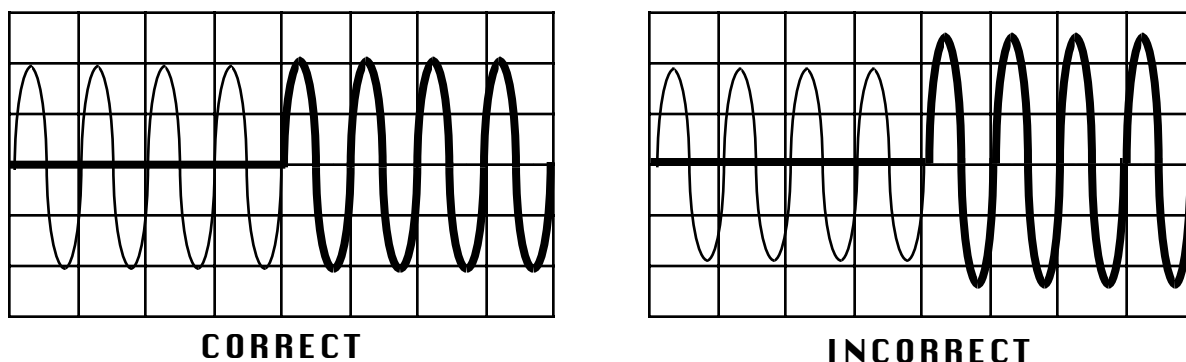

Fig. 7
**Step 10.** Lace up and roll a loop of Dolby CAT-97 "left / right" film. Set the oscilloscope for dual-trace operation and adjust the display so the two tone bursts overlap each other. The trace should now look like a continuous sine wave with a horizontal line through it. (See Figure 7). Again, it is imperative that the volts/division controls on the 'scope are in the same positions.
(NOTE: One of the traces in Figure 7 is drawn with a heavier line. This is to help distinguish the two traces.)